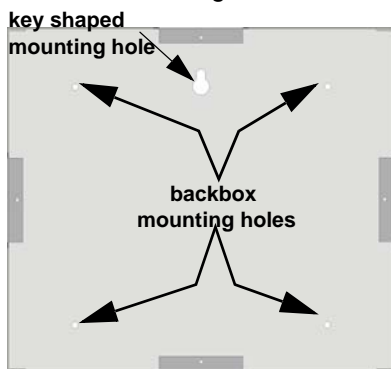

Figure 5: Backbox Surface Mount Holes
2. To properly mount the backbox, insert a single screw into the key shaped mounting hole. Do not tighten all the way. See Figure 5. Place a level on top of the backbox, with the backbox level insert the rest of the mounting screws.